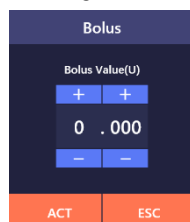

Figure 7.3
(2) Click the "Bolus" on the upper left to open the setting interface (as shown in Figure 7.3). Click "+" or "-" to set the bolus. The upper limit can be set to the max bolus that has been set. Click "ACT" to save and exit, or click "ESC" to exit without saving.